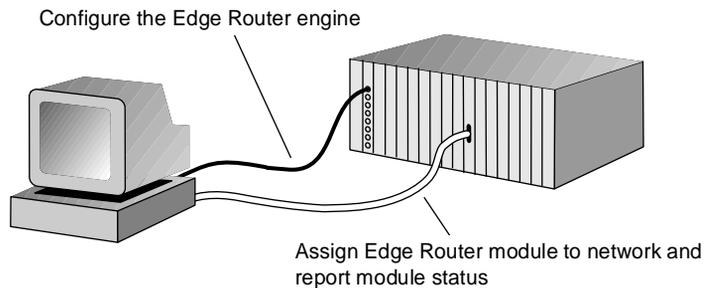

Figure 3-2 Terminal Connections
- 2 Attach the DB-25 end of the adapter cable to the RS-232 null modem cable coming from your terminal. Figure 3-2 shows the terminal connections to both the management module and the Edge Router console port.